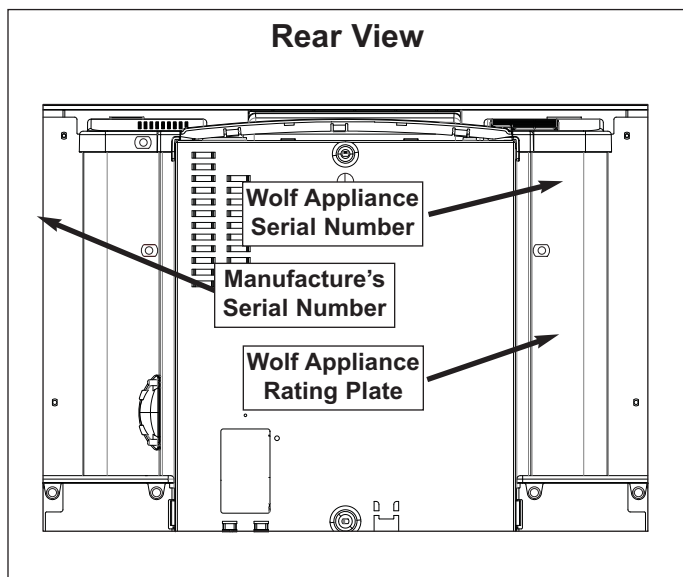

Figure 1-1. Rating Plate Label Locations
- There are three information plates on the EC24. On right hand side is the manufacture's serial number. On the left hand side is Wolf Appliance rating plate and a second plate with Wolf Appliance serial number. (See Figures 1-1, 1-2, and 1-3).